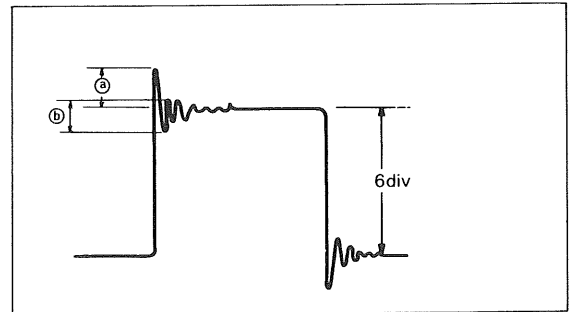

Fig. 3
3. Rotate SWEEP TIME/DIV control from 2 μ s to 0.2 μ s. Adjust TC704 (mid range) and VR703 (high range) for minimum overshoot (within 3%) and ringing (within 3%) at point (a) and (b) on waveform as shown in Fig. 3.